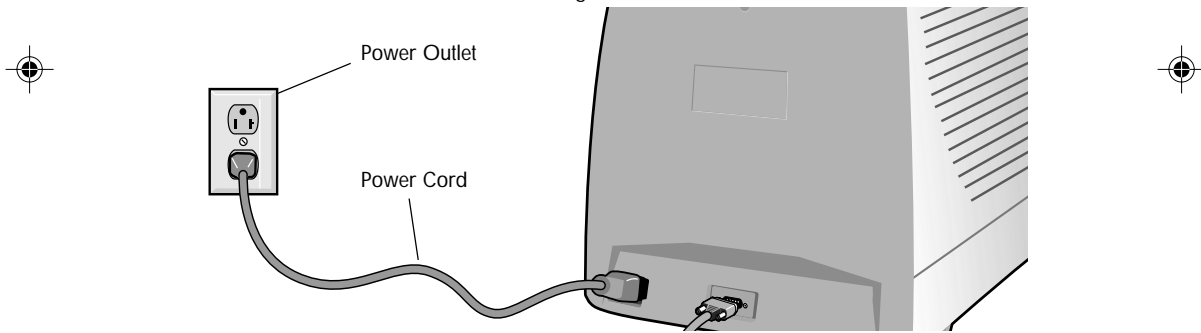

Figure C.1
4. Connect one end of the power cord to the AccuSync monitor and the other end to the power outlet (**Figure C.1**).